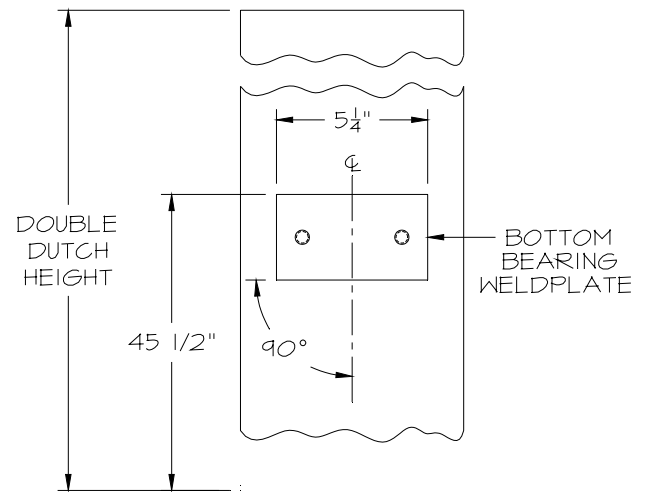

FIG. 16
- * **Measure and mark 10-7/8" up** from overall Double Dutch height mark (Figure 16).